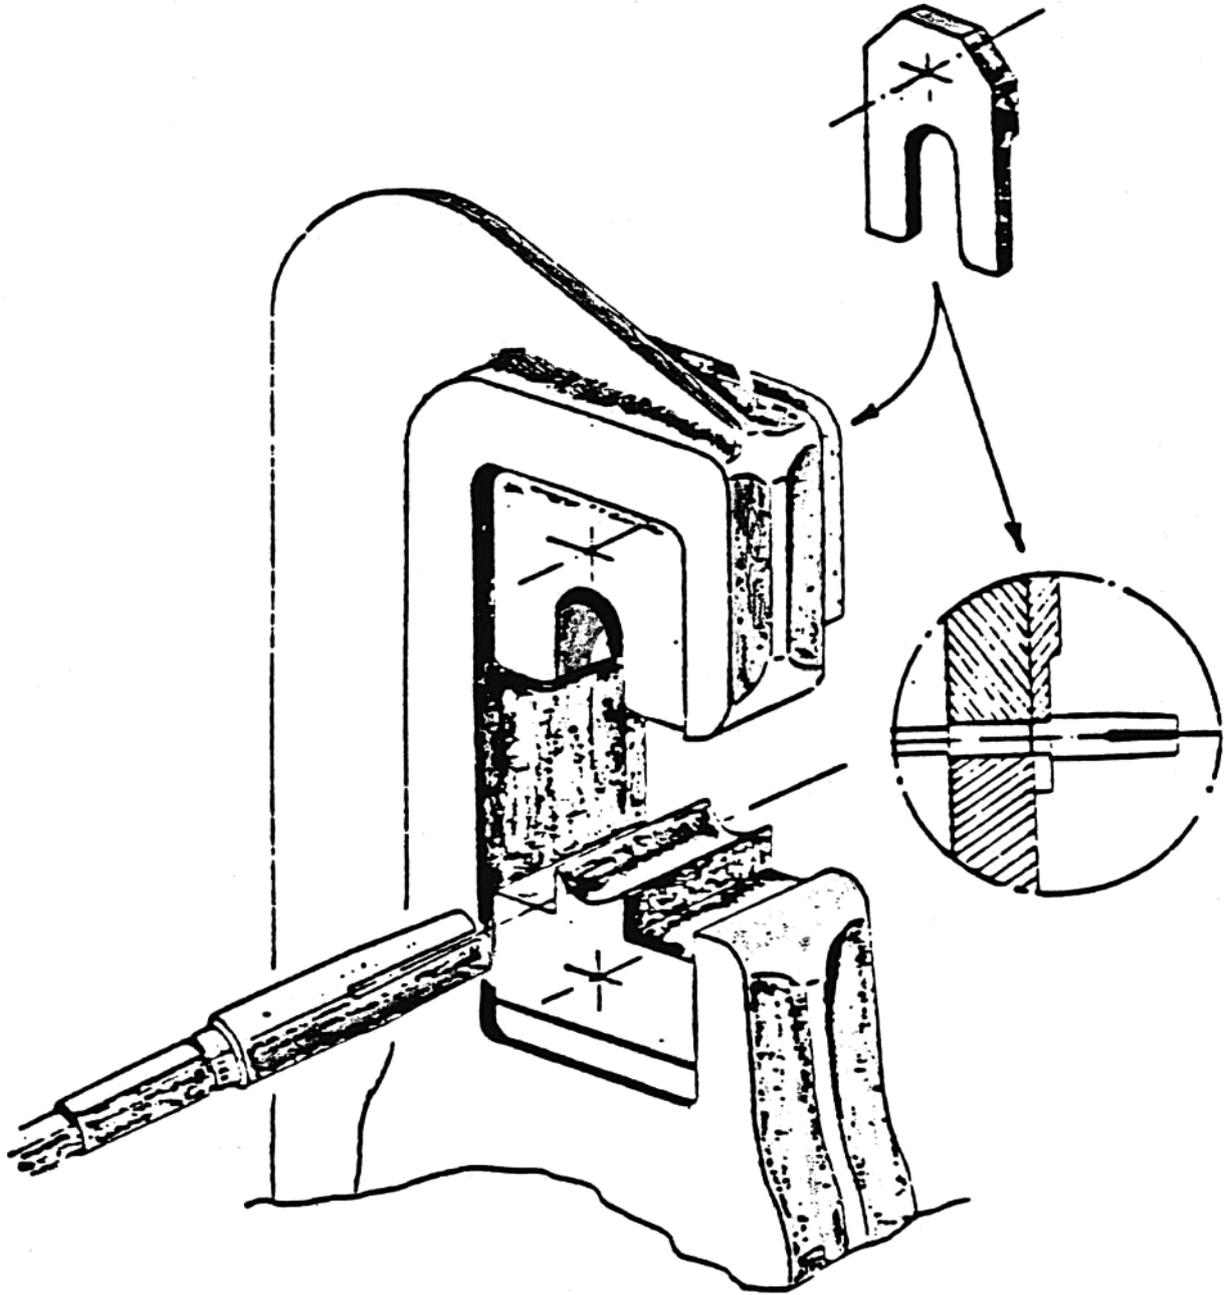

Figure 23: Position of contact in tool (P/N 69710-1 & crimping dies P/N 483884-1)
- Slide the ferrule # 1 and crimp with hand-tool P/N 69710-1 & crimping dies 483884-1. (see position of of contact in the hand-tool figure 23, page 13)
- Crimp with hand-tool P/N 69710-1 & crimping dies 483884-1. (see position of of contact in the hand-tool figure 23, page 13)